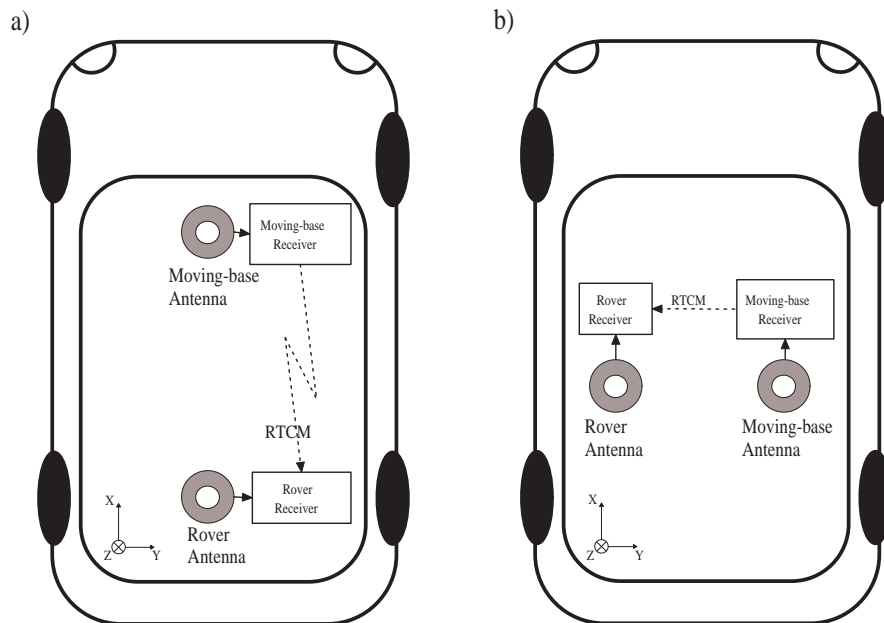

Figure 3-2: Moving-base attitude determination setup. a) default configuration. b) example of non-default configuration.
As of firmware release 2.0, the heading and pitch of a vehicle can be derived from the orientation of the baseline between a base and a rover antenna when both antennas are attached to the vehicle. The base antenna is connected to a first receiver configured as RTK moving base station. The rover antenna is connected to a second receiver configured as RTK rover and accepting the RTCM stream from the first receiver. This is illustrated in figure 3-2.
1. Attach two antennas to your vehicle. The default antenna configuration is as depicted in figure 3-2 a). It consists in placing the antennas aligned with the longitudinal axis of the vehicle. If such configuration is not possible, you will have to specify the relative position of your antennas, as explained below. For best accuracy, try to maximize the distance between the antennas.
5. By default, the attitude angles are computed assuming that the two antennas are aligned with the longitudinal axis of the vehicle, and that the moving-base antenna is in front of the rover antenna (see figure 3-2 a)). If you cannot place the antennas in such configuration, the reported attitude angles will be biased. That bias can be removed by telling the receiver where the moving-base antenna is located in the vehicle reference frame (see appendix A). This is done by specifying the coordinates of the baseline between the rover ARP and the moving-base ARP in the X, Y and Z directions. For example, in the configuration b) of figure 3-2, assuming that the distance between the antenna ARPs is 1 meter, you would issue (on the rover receiver):